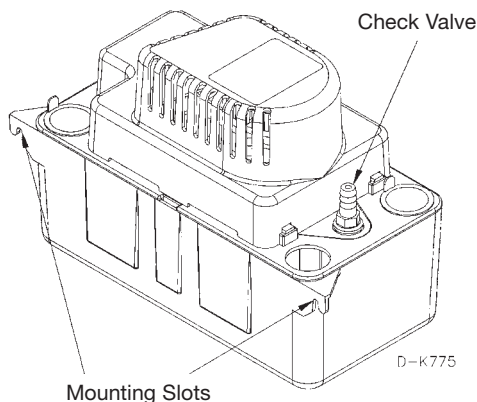

Figure 2.
2. Mounting the pump: The tank has two slots provided to mount the unit on a vertical surface such as an adjacent wall. The slots are located on the ends of the tank (Fig. 2). Pump must be level and the inlet must be below the coil drain. Conduit fittings are not compatible with the plastic pump housing.